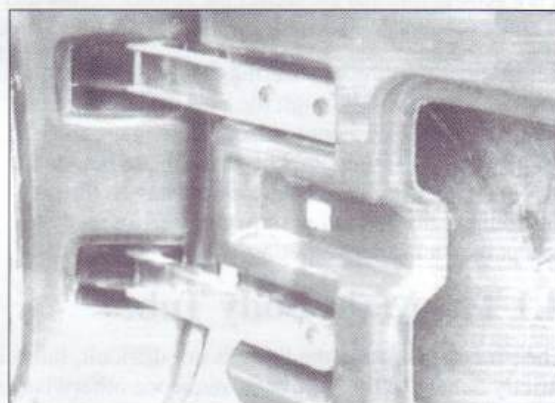

Fig.2c. Door fitted to hinge
4. Bolt the doors to the hinges (fig.2c), and see how they look. We find it best to start with the driver's door. You can now move the scuttle / body around so that it flows nicely where the body meets the door at the top. The idea is not to have a step.